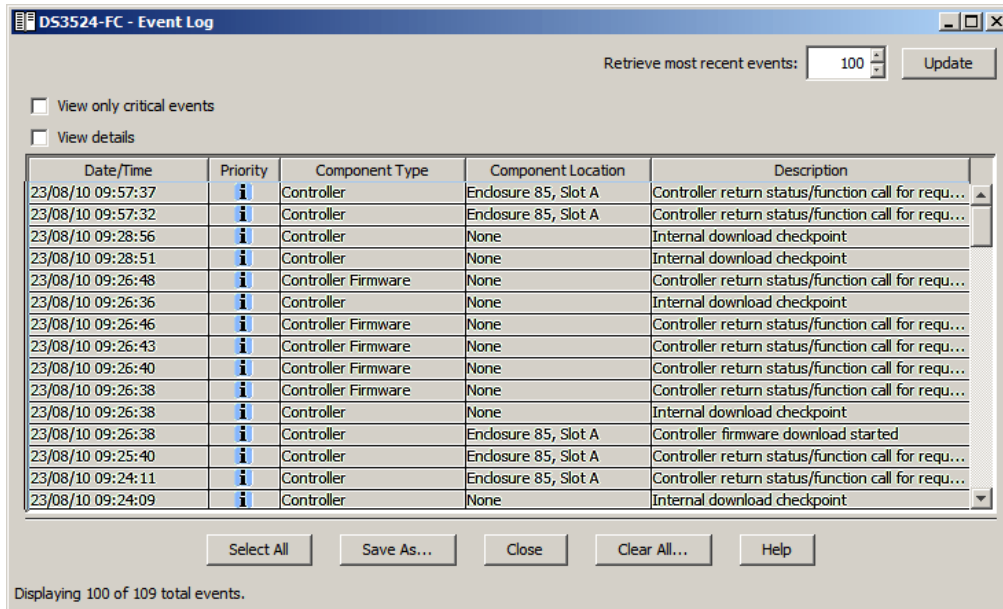

Figure 14-95 Select All events
- **Select All:** Use this button to highlight all events (Figure 14-95 on page 389).